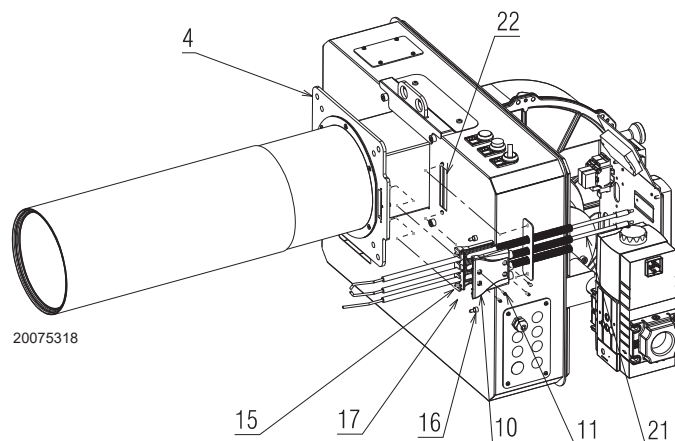
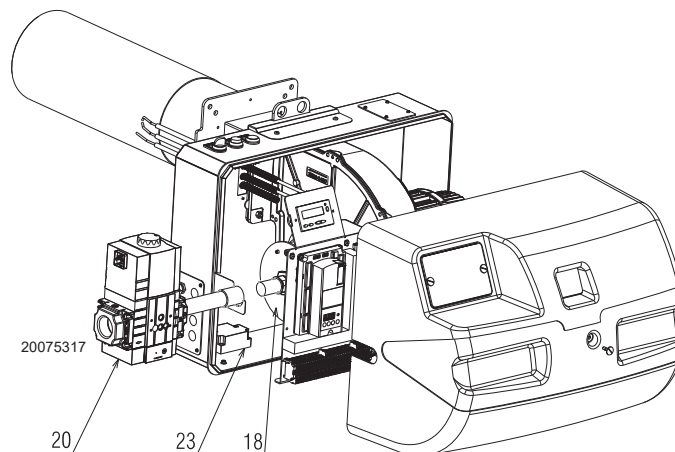

Fig. 18
Fig. 19
For the installation of the electrodes proceed as follows (Fig. 18) - (Fig. 19):
- Fix the flange 4)(Fig. 18) to the boiler plate and tighten the nuts 4). During this operation, take care not to touch the electrode unit.